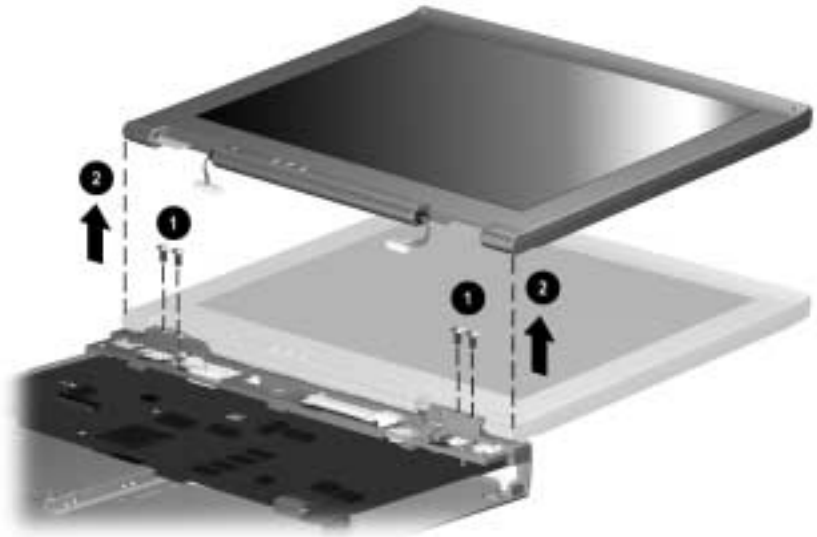

Figure 5-26. Removing the Display Assembly
5. Remove the four screws **1** securing the display hinges to the base assembly (Figure 5-26).